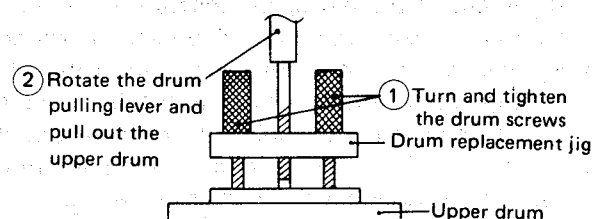

Figure 32.
1. Unsolder the leads ① to ④ and remove them.
2. Remove two screws ⑤ [brass screws (W3P+3S) with plain washer] by using a philips screwdriver.
3. Withdraw the upper drum with care not to allow it to be tilted, and replace it. Do not damage the outer surface of the disk. For withdrawal of the upper drum, use the jig (specialized for removing the upper drum) shown in Fig. 32.